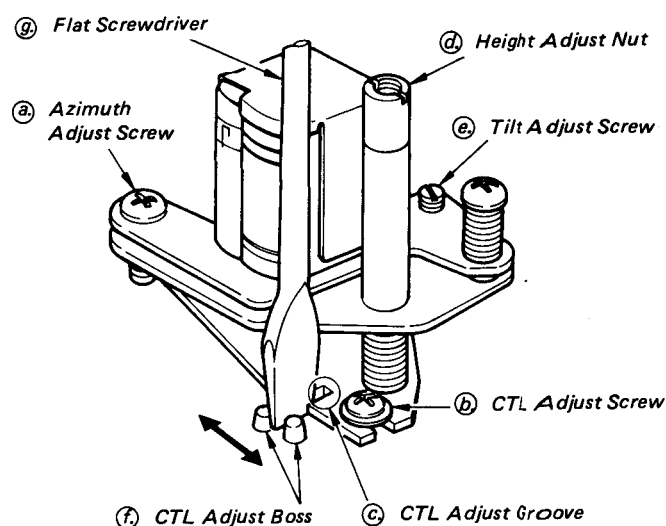

Fig. 5-128 CTL Adjustment
2. Adjust the nut ④ to obtain the maximum level of the audio by a half quarter turn (see Fig. 5-128).
34-7. CTL Position Adjustment (see Fig. 5-128)